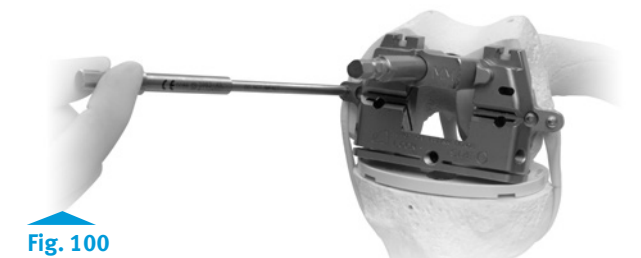

Fig. 100
- If the position is satisfactory, insert two Hex-head Screws to secure the 4-in-1 Femoral Cutting Block to the distal femur (Fig. 100). Then proceed to “Step 6: Finish Femur.”